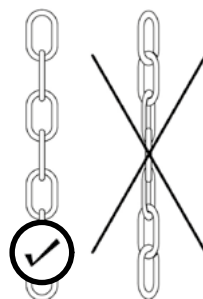

Figure 8
- The chain for emergency control should never be twisted (fig. 8), otherwise, failures in the operation of the emergency manual control unit may occur.